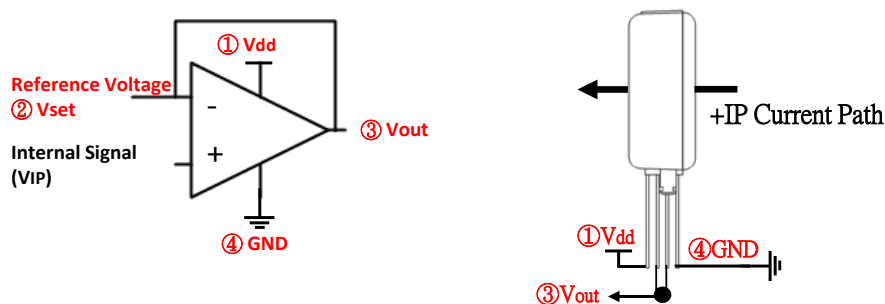

Fig. 11
**2. Measure the Overcurrent Value** :  $V_{set}$  pin and  $V_{out}$  pin are short-circuited, and output pin does not need to be connected to any load which is as shown in Fig.11. Users can set the IP overcurrent value by putting the target current which is flowing through this hole. Then, measure the output voltage ( $V_{out}$ ) directly by a multimeter under DC mode and records this voltage.
**1.1 Measure the Zero Current Value  $V_{0A}$  :**  $V_{set}$  pin and  $V_{out}$  pin are short-circuited, and output pin does not need to be connected to any load which is as shown in Fig.11. The output voltage ( $V_{out}$ ) is directly measured by a multimeter under DC mode.